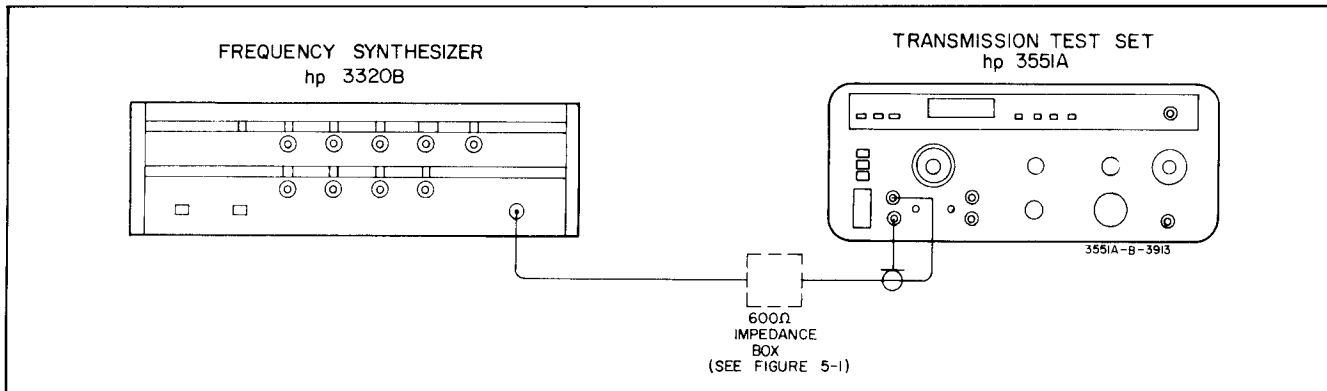

Figure 5-3. Frequency Accuracy Test Setup.
- a. Connect the equipment as shown in Figure 5-3.